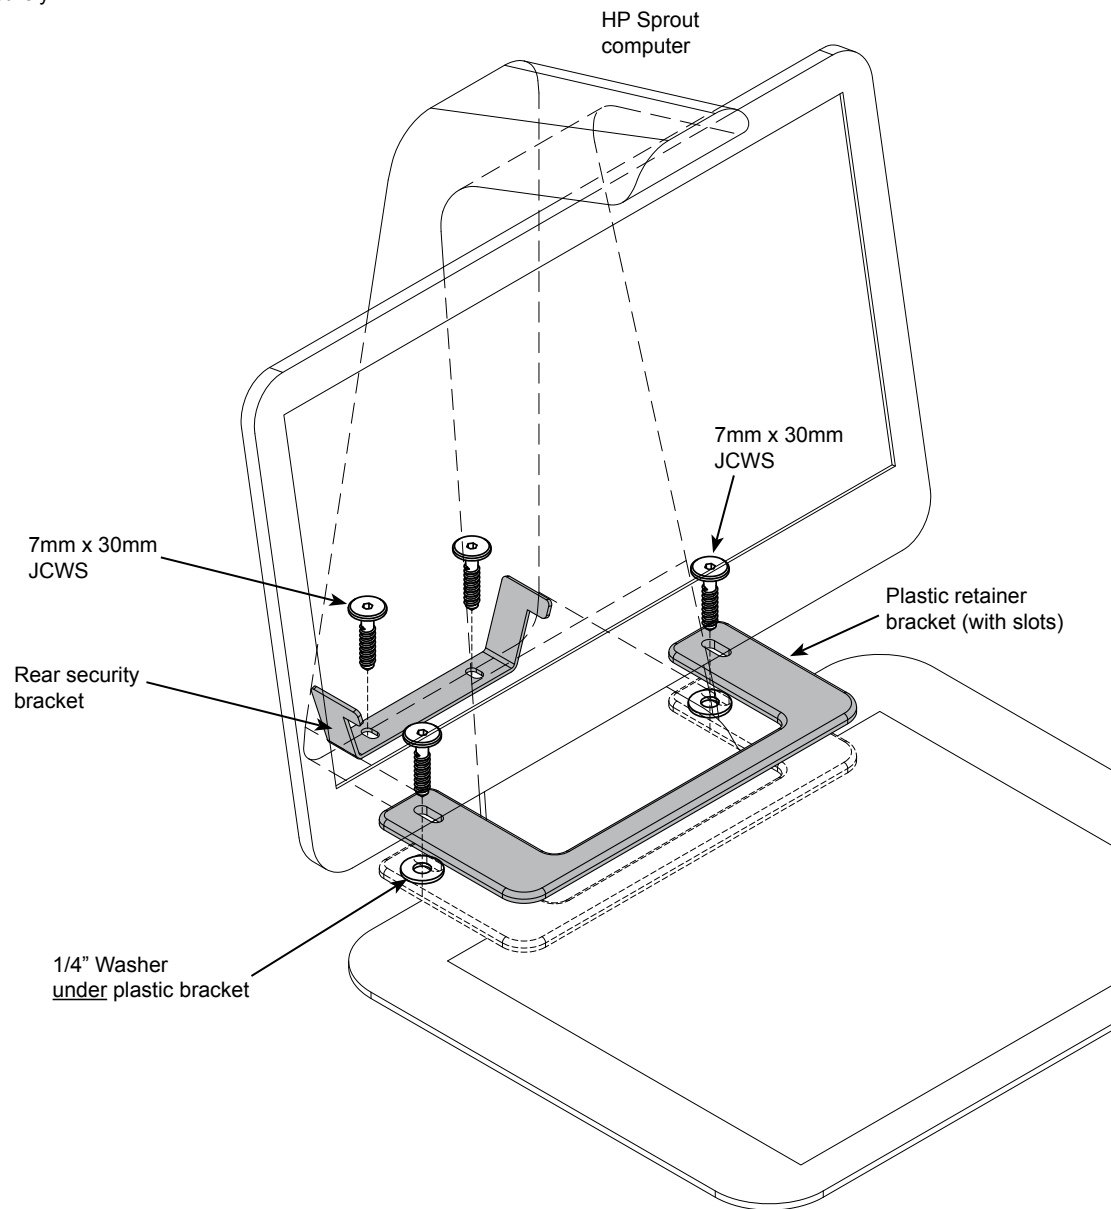

Figure 2
2. Install the rear security bracket with (2) 7mm JCWS. **Figure 2.** Be sure bracket is snug up against Sprout before tightening.
3. Install the plastic retainer bracket (with slots) with (2) 7mm JCWS, and (2) washers under the bracket.